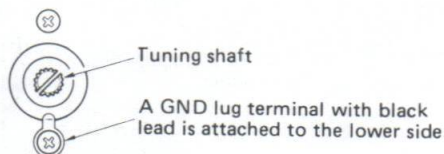

Fig. 7
- 2) Remove the two screws (yellow bind head, 3 x 12) shown in Fig. 7.